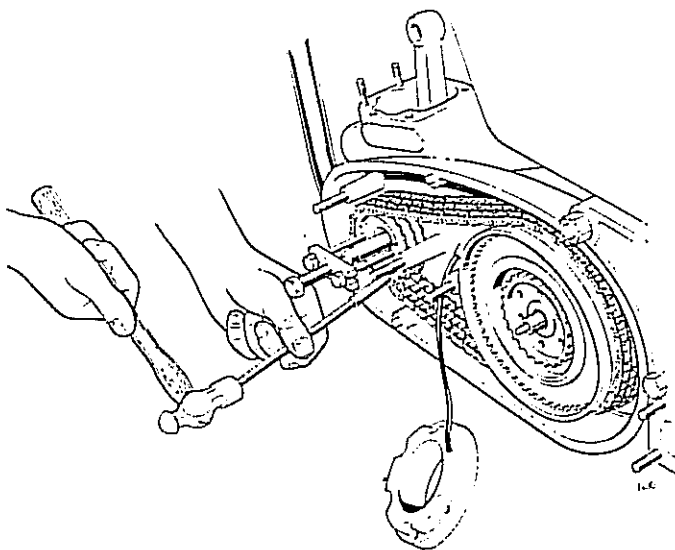

Fig. C15 Use of engine sprocket puller 064297
- 11 Prepare to remove the engine sprocket, primary chain and remainder of the clutch as a set. This necessitates the use of engine sprocket puller part number 064297 assembled to the sprocket and engine crankshaft as shown in *Fig. C15*. It is essential that the side bolts are screwed into the sprocket at least  $\frac{1}{2}$  in. prior to tightening of the centre bolt for extraction purposes for otherwise the thread may be stripped. Now tighten the centre bolt of the puller against the crankshaft and shock the side of the sprocket using a soft metal drift and hammer, whereupon the taper joint between the sprocket and shaft should be broken.